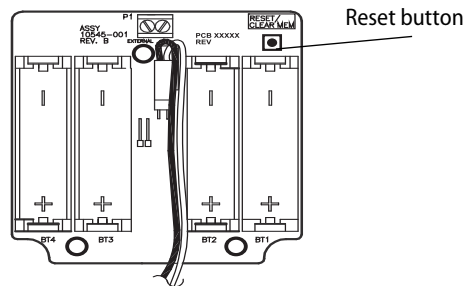
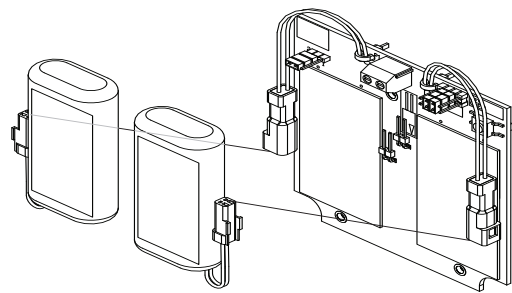

Figure 5 Using the reset button
Figure 6 Installing weatherized batteries
- 3 Install batteries with proper polarity as shown in Figure 5. (For weatherized battery packs, simply connect the wires from the battery pack to the circuit board as shown in Figure 6.)
- 4 Press and hold the reset button on the PC board (as shown in Figure 5) until the green light on the keypad flashes (about three seconds) then release the button. If green light does not flash, see "Troubleshooting" on page 5.